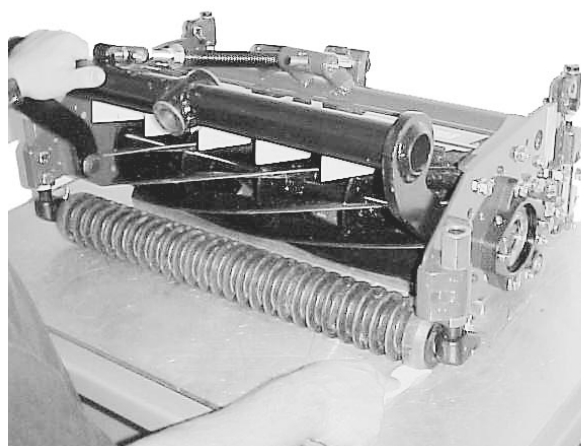

Figure 21
4. Adjust the front brackets until both ends of the roller are in contact with the level surface. Use a piece of newspaper or visually check whether any gap exists between the roller ends and the flat surface (Fig. 21).